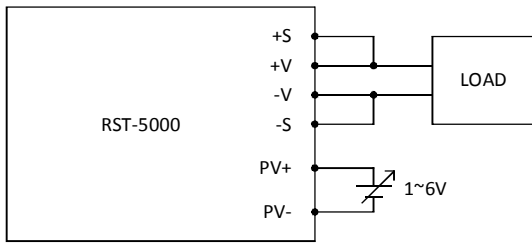

Fig 3.1
(2)Connecting an external DC source between PV+ and PV- on CN313 or CN314. +S and +V, as well as -S and -V, also need to be connected as shown in Fig 3.1.